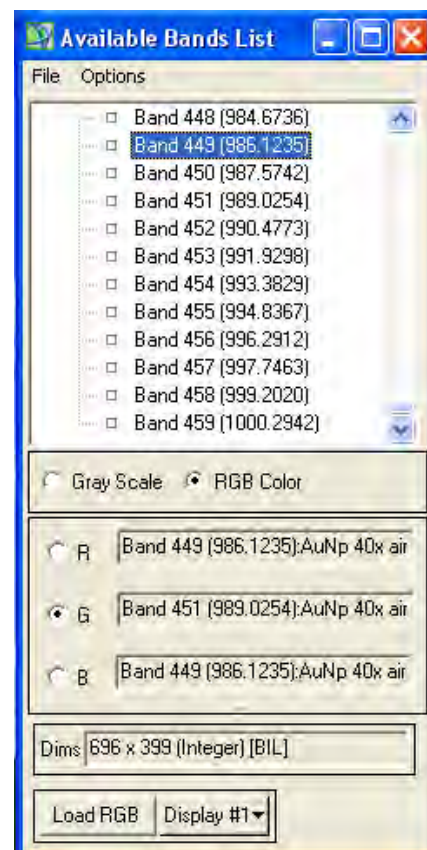

Figure 12. Automatic RGB bands
5. When you are done selecting the bands, press the Load RGB button (see Figure 12)